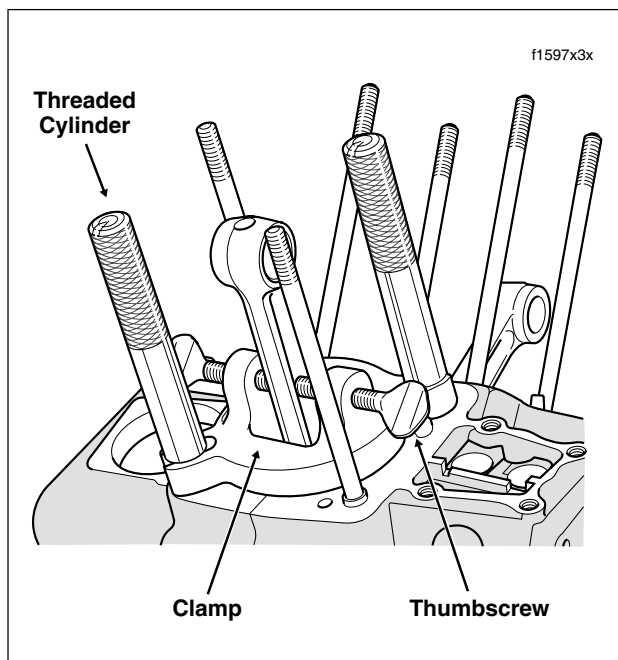

Figure 3-94. Install Connecting Rod Clamping Tool
- Slide clamp over connecting rod so that slots engage cylinder head studs. See Figure 3-94. Exercise caution to avoid scratching or bending studs.